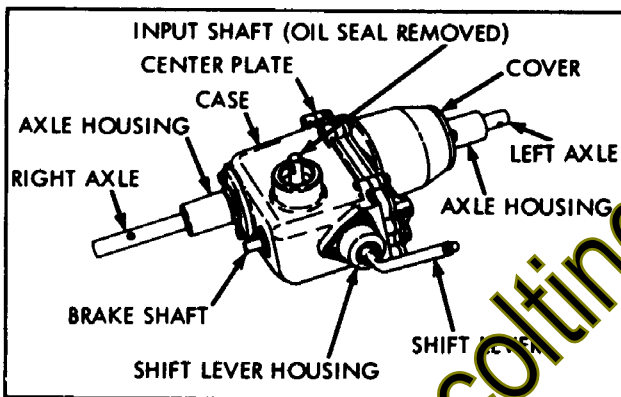
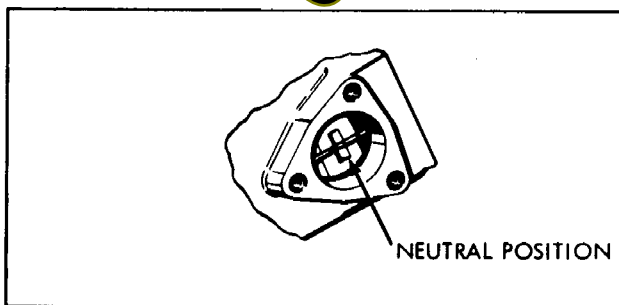
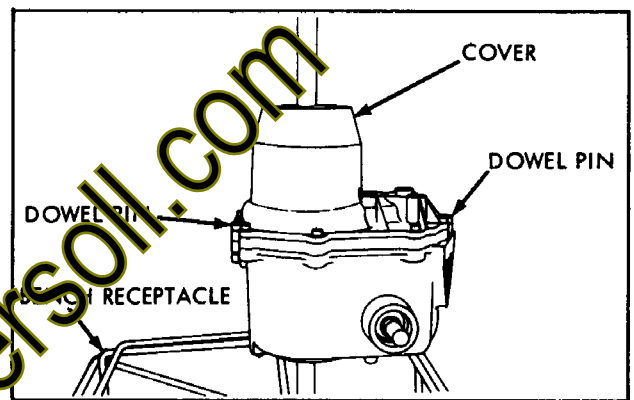

Figure 2-1
Figure 2-2
Figure 2-3
1. Clean the outside surface of the transaxle, away from the area where the disassembly will take place. (Position shift lever in neutral position to help disassembly. See Figure 2-2.) Remove screws (3) holding shift lever and shift lever housing. Remove shift lever housing (Fig. 2-1.) Drain oil through the shift lever opening (for service of shift lever assembly, refer to SECTION 3.) Remove all keys from keyways, remove all burrs and dirt from shafts. On hardened shafts, use a stone to remove burrs. All seals should be replaced whenever a shaft is pulled through a seal. Always use a new gasket whenever the gasket surfaces have been separated.
2. After removing axle housings, Fig. 2-1, place the unit in a receptacle, bench or clamp the transaxle in a soft jaw vise. Position the transaxle so that the socket head cap screws are facing up. (Fig. 2-3).
3. Remove the socket head capscrews holding the case and cover together. Drive out the dowel pins used for alignment of the case and cover. (Fig. 2-3).